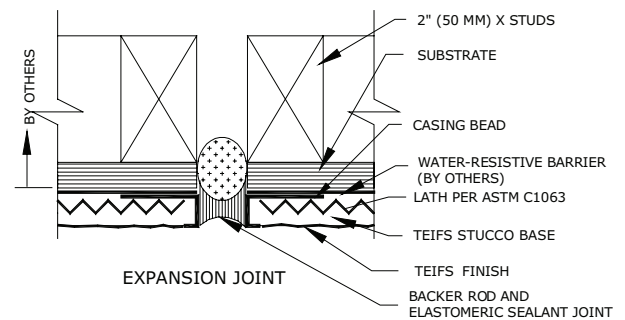

Fig. 10.3
- Expansion joints are required at existing wall expansion joints, changes in substrates (Fig 10.3), at inside corners, and at floor lines on wood frame construction.